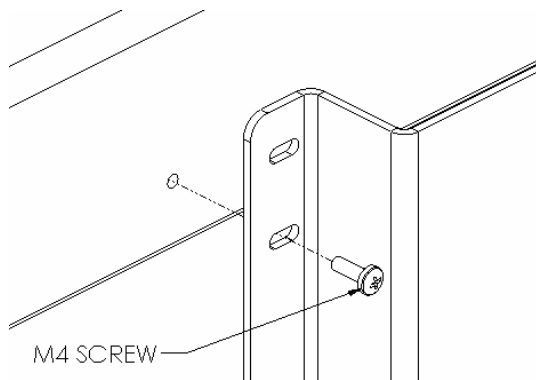
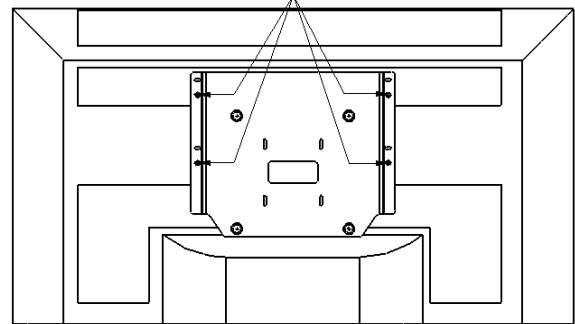
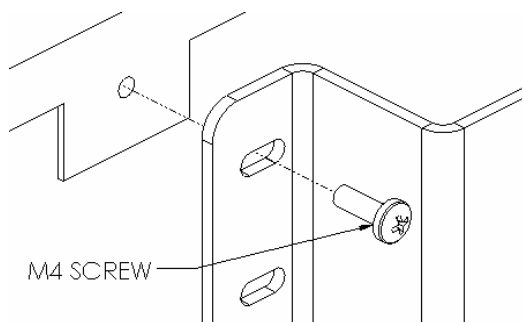
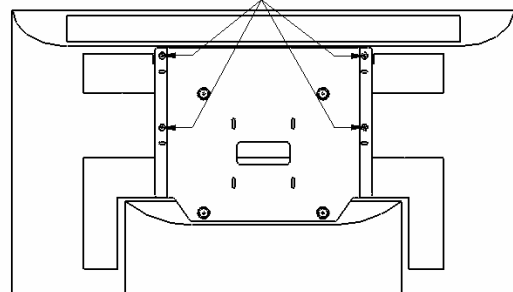

Figure 6
Figure 7
Figure 8
Figure 9
4. **Bracket Installation:** Attach bracket to back of display using the M4 x 12mm screws, making sure to use the correct slots for each screen size (see Figure 6 & Figure 7 for 32" and Figure 8 & Figure 9 for 26" screen).